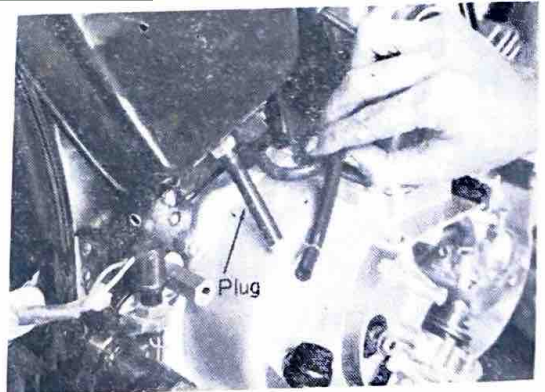

Fig. 3-1-13
13. Disconnect the oil pipe. (Plug the oil tank fitting to prevent loss of oil). (Fig. 3-1-13)